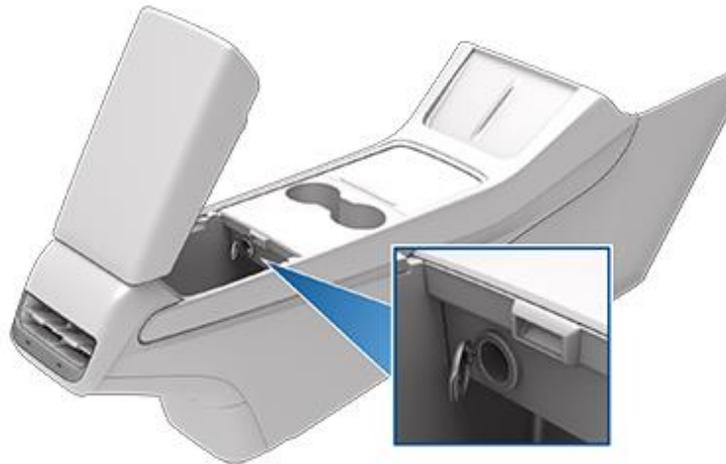

Figure 1
All Model 3 and Model Y vehicles are equipped with a 12V power socket which is located in the center console's rear compartment (Figure 1).
2. Lift the center armrest as shown in Figure 1.